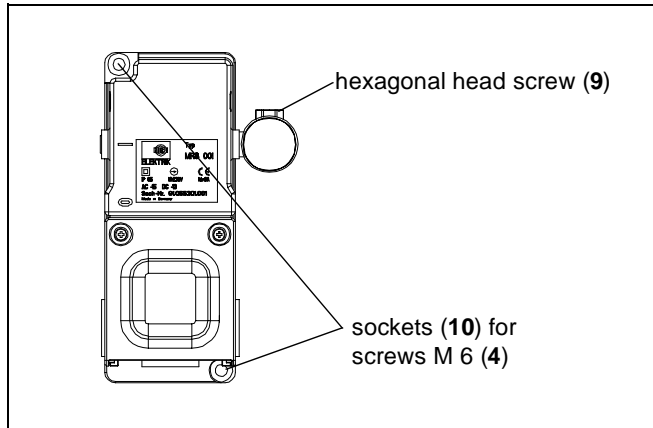

Fig. 5-2: Mounting the misalignment switches on the belt conveyor
The conveyor belt misalignment switches type MRS 001 are delivered ready for operation. The screws M 6 (4) for the mechanical fastening are not included in the scope of delivery (s. fig. 5-2).
2. Fasten the misalignment switches on the belt conveyor system by means of two screws M 6 (4) through the sockets (10) (s. fig. 5-2).
3. Loosen the hexagonal head screw (9) by means of an open end wrench SW 13 (s. fig. 5-2).